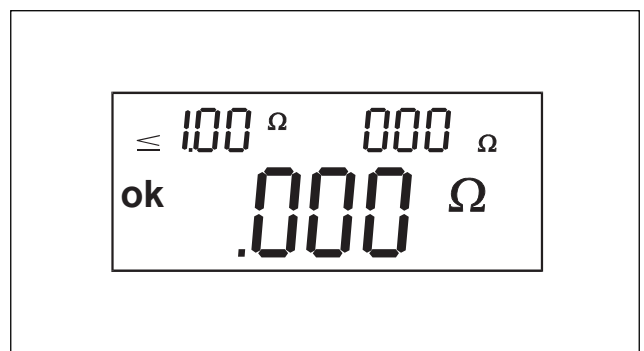

Fig. 7.3 Test lead compensation, function 8
- The following result is displayed (Fig. 7.3):